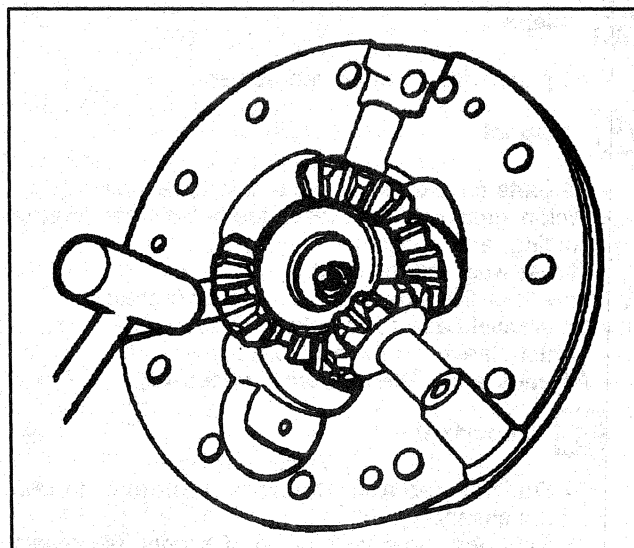

Figure 14—Installing the Pinion Yoke
4. Install the yoke firmly to the differential case half (Figure 14).